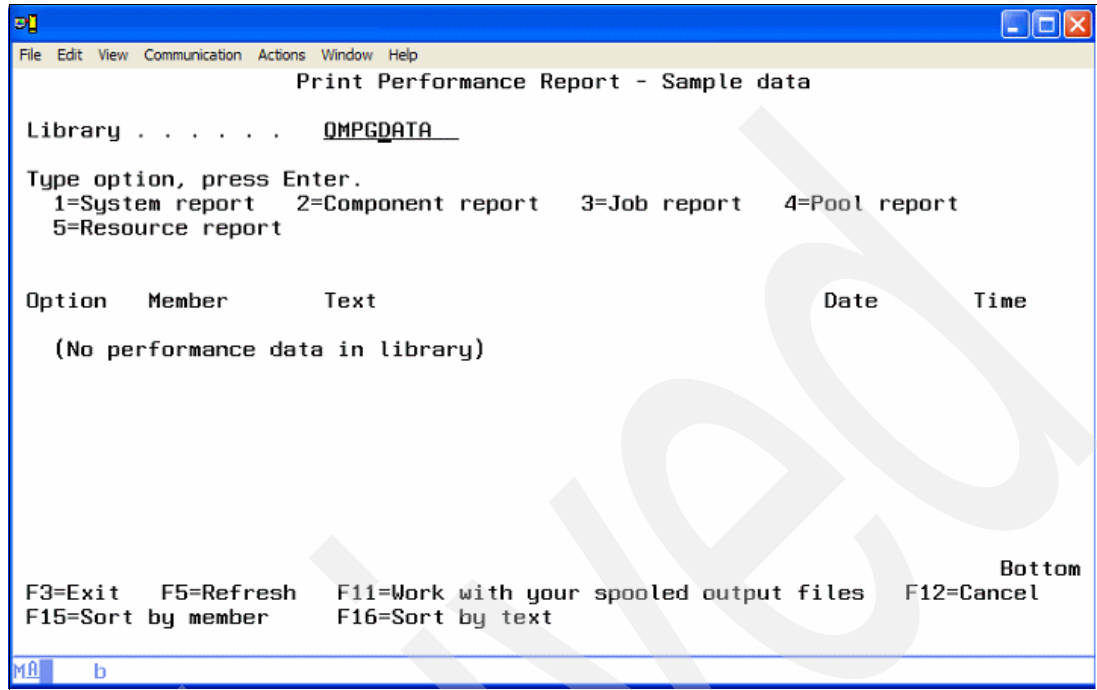

Figure A-20 Specifying the data library to generate the Performance reports
- On the Print Performance Report panel (Figure A-20), choose the library that contains the data from which to generate the performance reports, and press Enter.